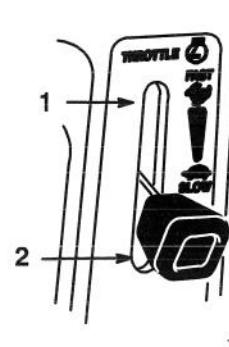

Figure 4
5. Move throttle lever to "FAST" (Fig. 4).
7. After the engine starts, move the choke lever to "OFF" (Fig. 4). If the engine stalls or hesitates, move the choke lever back to "ON" for a few seconds. Then move the throttle lever to desired setting. Repeat this as required.
1. Move the throttle lever to "SLOW" (Fig. 4).